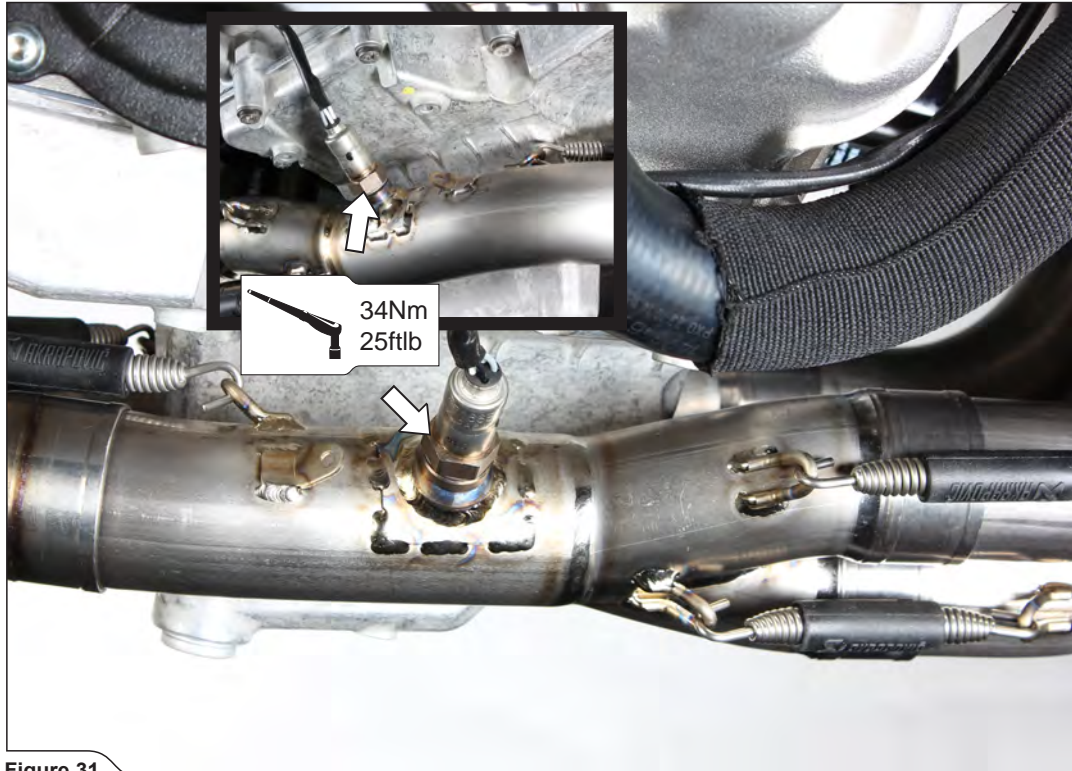

Figure 31
5. Tighten both lambda sensors into the collectors (**Figure 31**).